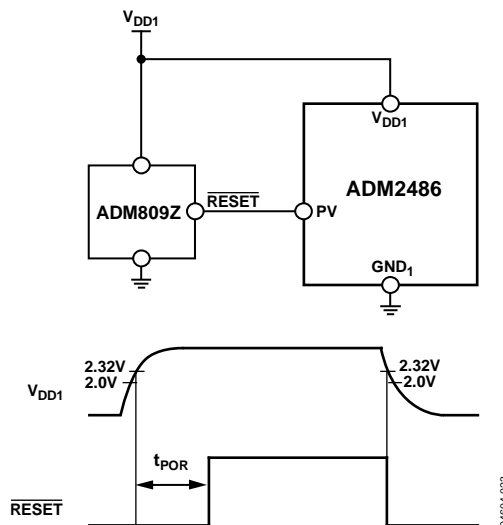

Figure 30. Driving PV with ADM809Z
To avoid chatter on the A and B outputs caused by slow power-up and power-down transients on V_{DD1} ($>100\ \mu\text{s/V}$), the device features a power_valid (PV) digital input. This pin should be driven low until V_{DD1} exceeds 2.0 V. When V_{DD1} is greater than 2.0 V, this pin should be driven high. Conversely, upon power-down, PV should be driven low before V_{DD1} reaches 2.0 V (see Figure 30).